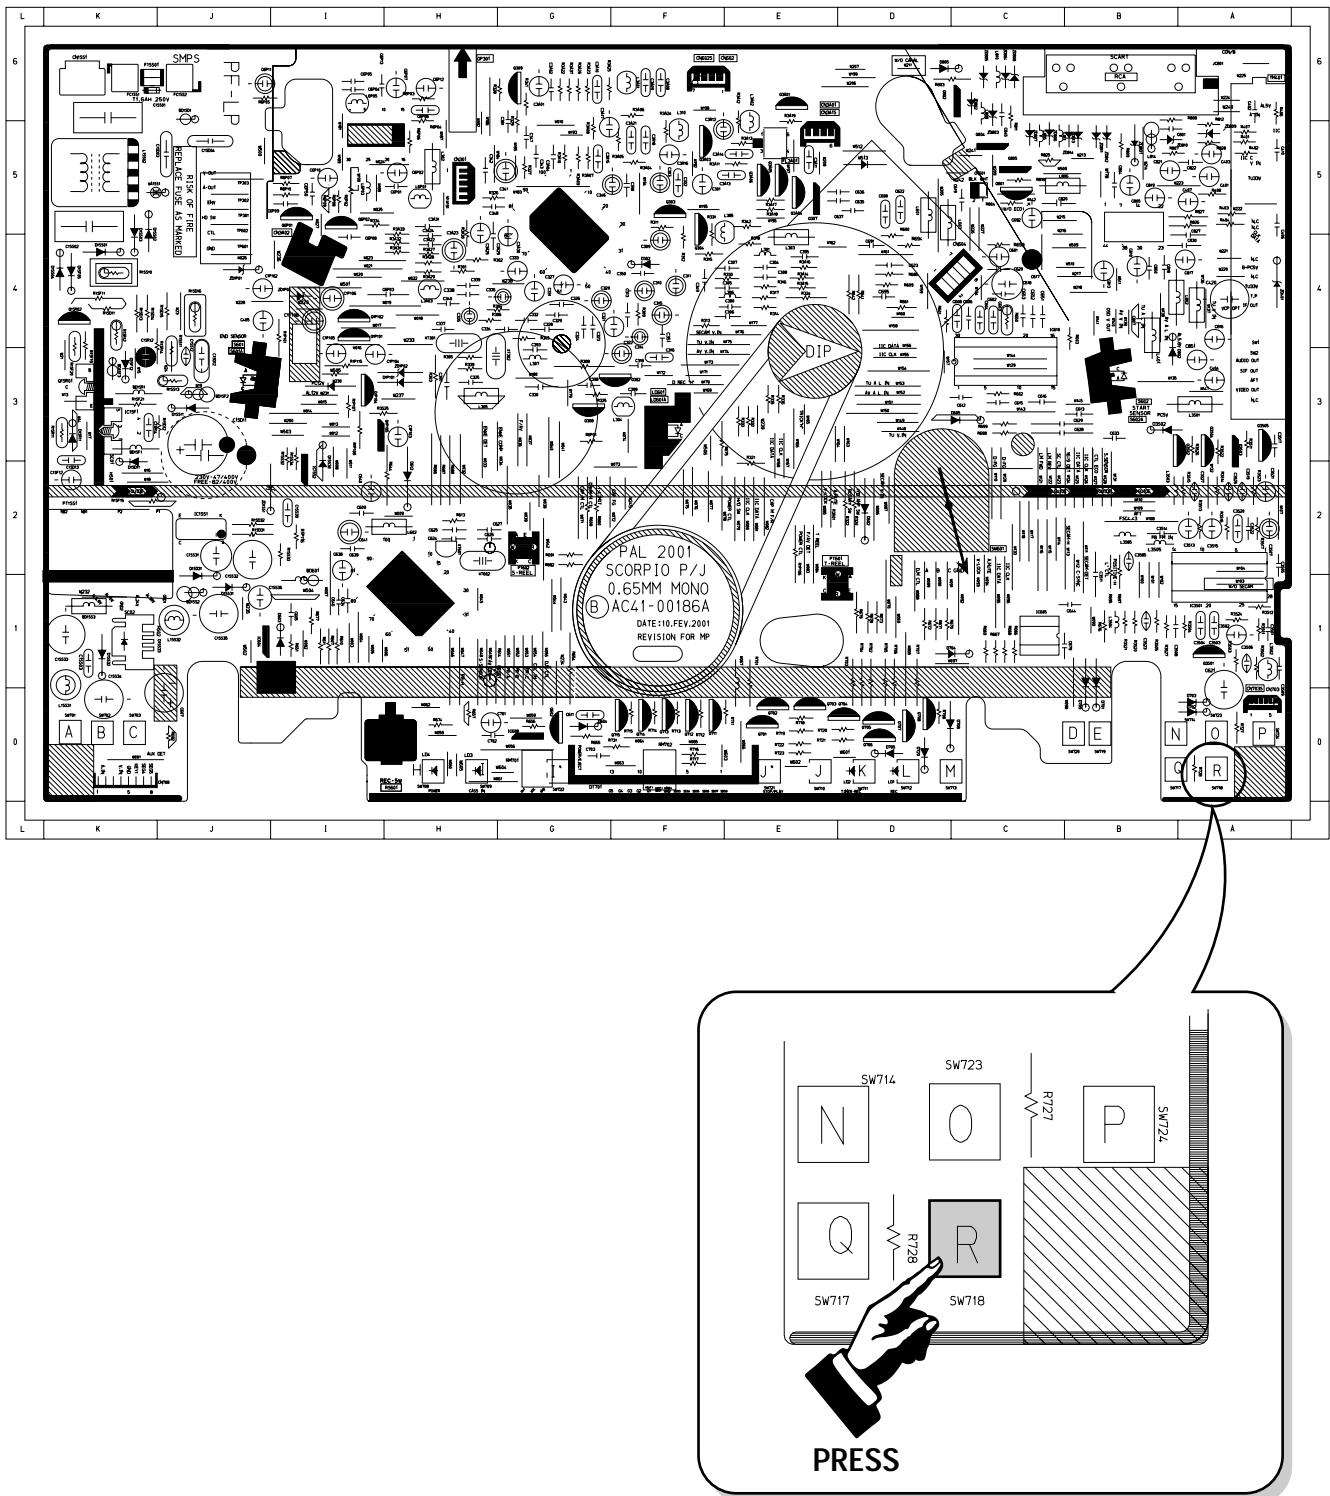

Fig. 2-2 Main PCB (Top View)
- 2) Press the "SW718" button on Main PCB to set the adjustment mode. (See Fig. 2-2)
- 1) Press the "SW718" button on Main PCB to set the adjustment mode. (See Fig. 2-2)